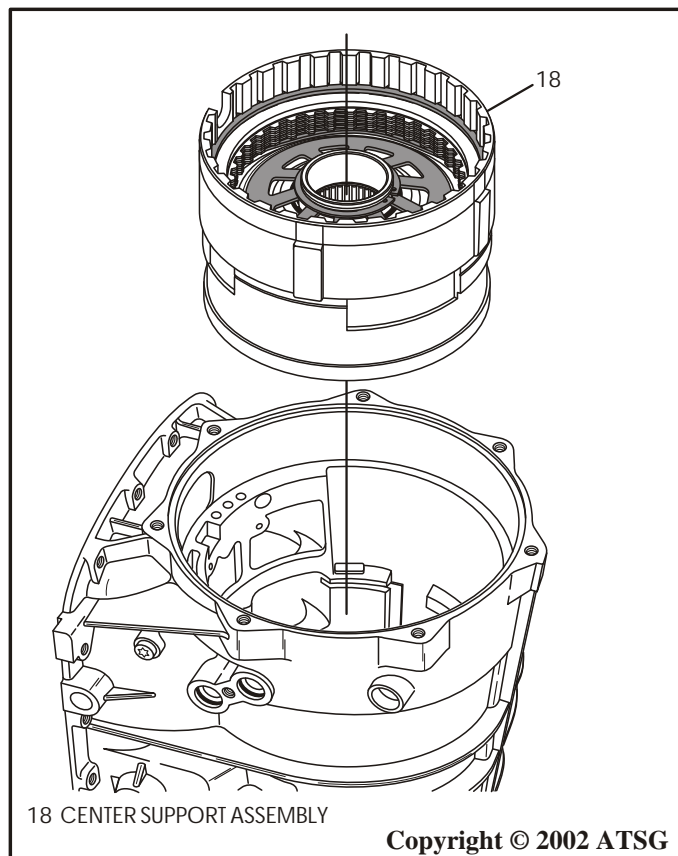

Figure 52
- 45. Remove the center support assembly from the case, as shown in Figure 52, and set aside for the component rebuild section.